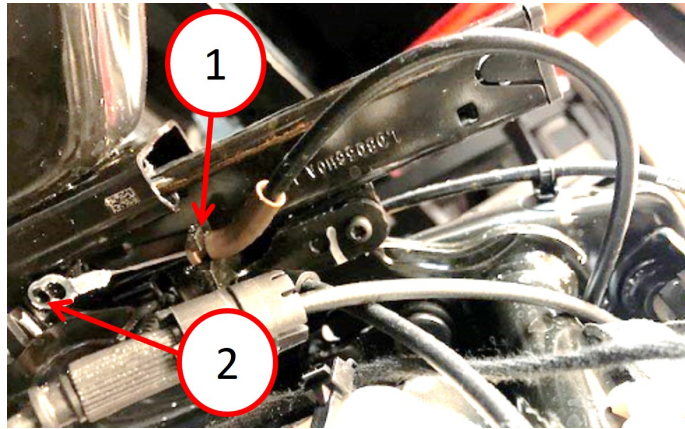

Fig. 4
- Using a flat blade screwdriver and from underneath the rear of the cushion, pop the communication cable conduit end-fitting out of the u-bracket on the track (Fig. 4) .
- Remove the cable clip from the track-pin (Fig. 4) .
- Using the cable (Fig. 4) just disconnected in Step 7, pull on it to manually release the seat and fold it backwards.
14. Install the cable clip on the track-pin (Fig. 4) .
15. Install the communication cable conduit end-fitting on the u-bracket to the track (Fig. 4) .